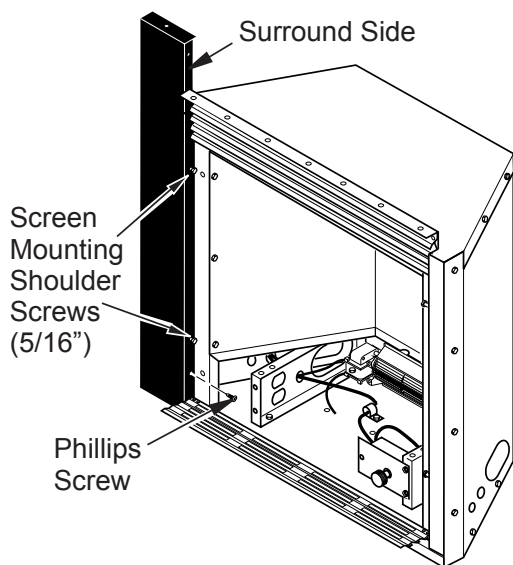

Figure 6 - Attaching Left Surround Side Panel
3. Align holes in left surround side panel with screen mounting screw holes. Replace 5/16" screen mounting shoulder screws removed in step 1 (see Figure 6, page 9). Do not tighten. Install Phillips screw in bottom (see Figure 6, page 9). Repeat for right side.